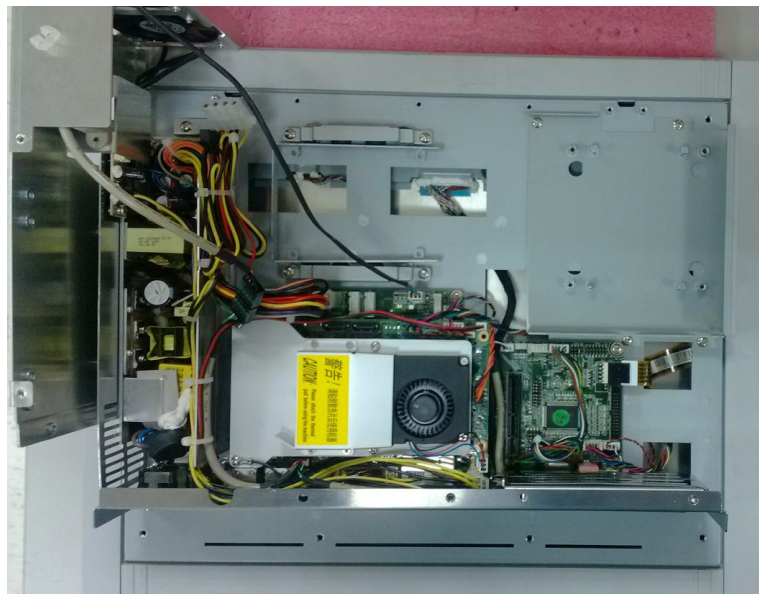

Figure 2.12
4. Remove the reinforced board. (see Fig 2.12)